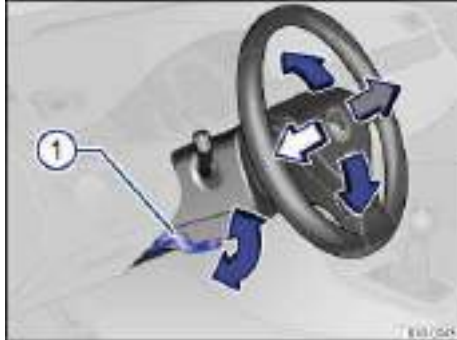

Fig. 50 Manual adjustment for steering wheel position.
- Push down on the lever ⇒ fig. 50 (1).